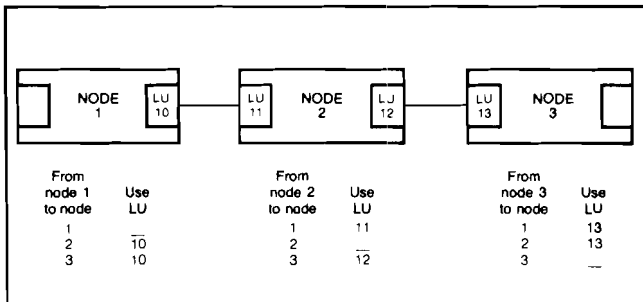

Figure 1. Nodal addressing in DS/1000-IV network
Node numbers for DS/1000 network connections are specified after an RTE operating system has been generated and loaded. A Nodal Routing Vector (NRV), which specifies the Logical Unit (LU) number through which a DS/1000 transaction goes from the local node to the target node, can be specified interactively or read from a file at each DS/1000 node. In each node, this file specifies the logical unit connections required to get to any accessible node, as shown in Figure 1.
Using the example of Figure 1, a transaction goes from node 1 to node 2 or 3 via LU10. At node 2, the DS/1000 communications management modules examine the destination node address in the message and either route the message to the local network interface monitors for processing if addressed to node 2, or forward the message to node 3 via LU12. In this way a single communications path is established between any two DS/1000 nodes, regardless of whether there is a direct, neighbor connection between them. Store-and-forward communications are not limited to a specified number of levels. However, store and forward to or through an HP 3000 system is not supported.